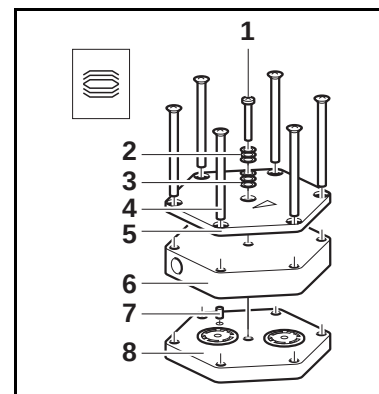

Fig. 7: Refitting pump head
1. On the pneumatic head connection (3), loosen the union nuts (2) by hand. Then slightly loosen the angle-fitting (1) in the pump head (4) by turning it anticlockwise, so that the connecting tube can be pulled out.
2. Mark the position of top plate (fig. 7/5), head plate (fig. 7/6), intermediate plate (fig. 7/8) and adapter relatively to each other by a drawing line (for two-headed pumps: at both pump heads) with a felt-tip pen. This helps to avoid incorrect assembly later.
After diaphragm and valve plates have been replaced	→ Check that the spacers have been replaced onto the diaphragm screw thread. → Check head connection and hose connections for leaks. → Possibly carefully tighten the outer screws (fig. 7/4) of the top plate crosswise.